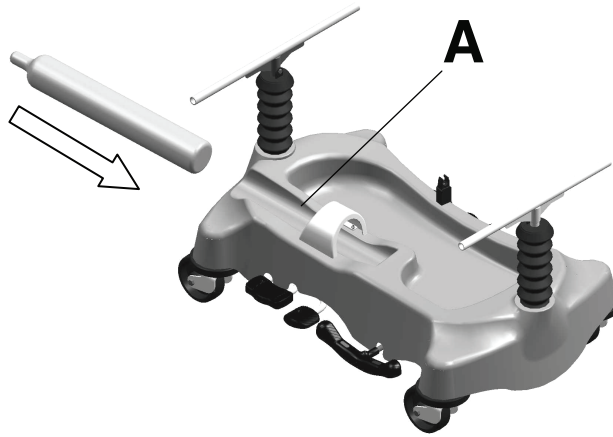

Figure 9 – Oxygen bottle retaining collar
1. Slide the oxygen bottle into the cutout of the base hood (A), bottom first (Figure 9).